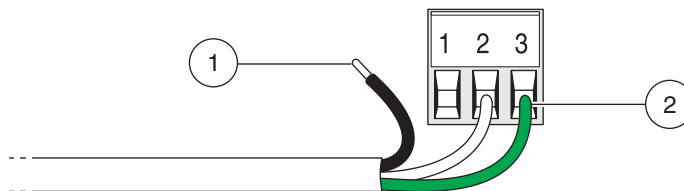

Figure 14 Proper wire preparation and insertion
1. Strip the outside insulation of each wire back ¼-inch. Refer to Figure 14 on page 23.
2. Strip the insulation on each wire back ¼-inch. Refer to Figure 14.
4. Insert the wire ends into the connector until the insulation seats against the connector. Refer to Figure 14. (Do not seat the insulation under the terminal pinch plates.)
3. Strip the insulation on each wire back ¼-inch. Refer to Figure 14.
6. Insert the wire ends into the connector (refer to the table below) until the insulation seats against the connector as shown in Figure 14. (Do not seat the insulation under the terminal pinch plates.)